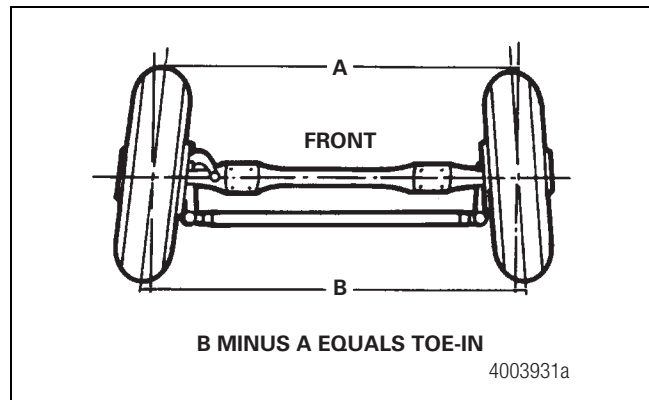

Figure 45
8. To get toe-in measurement, subtract the reading of the front of the tires from the reading at the back of the tires. Figure 45.